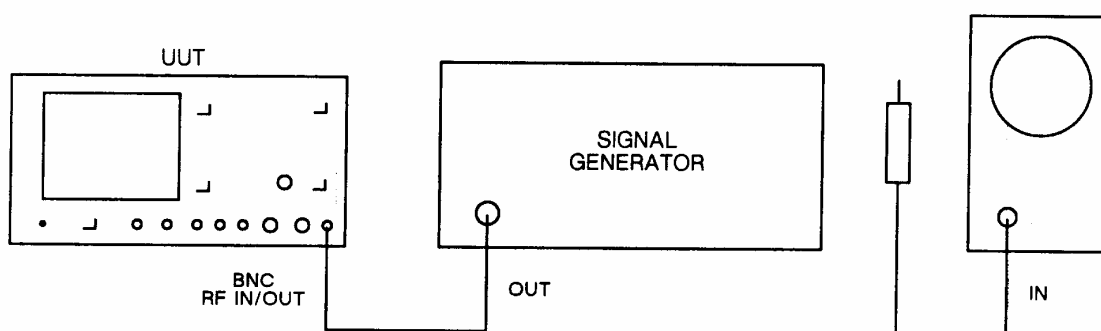

Fig. 5-2-2 Test equipment connections for adjusting R11 and R27 on AA1
- (1) Connect the equipment as shown in Fig. 5-2-2.
- (2) Set the UUT to transmitter test (TX), BNC input socket.
- (3) Set the signal generator to a carrier frequency of 55.6 MHz, RF level 0 dBm, modulation off.
- (4) Connect the oscilloscope probe to the IF OUTPUT at PLC. Adjust R11 for minimum distortion (i.e. cleanest sinewave).
- (3) Set the signal generator to a carrier frequency of 300 MHz, RF level 13 dBm, modulation off.
- (4) Monitor TP1 on the oscilloscope and adjust R27 to reduce the height of the pulse spikes to a minimum. The spikes should be less than 150 mV in either the positive or negative direction.